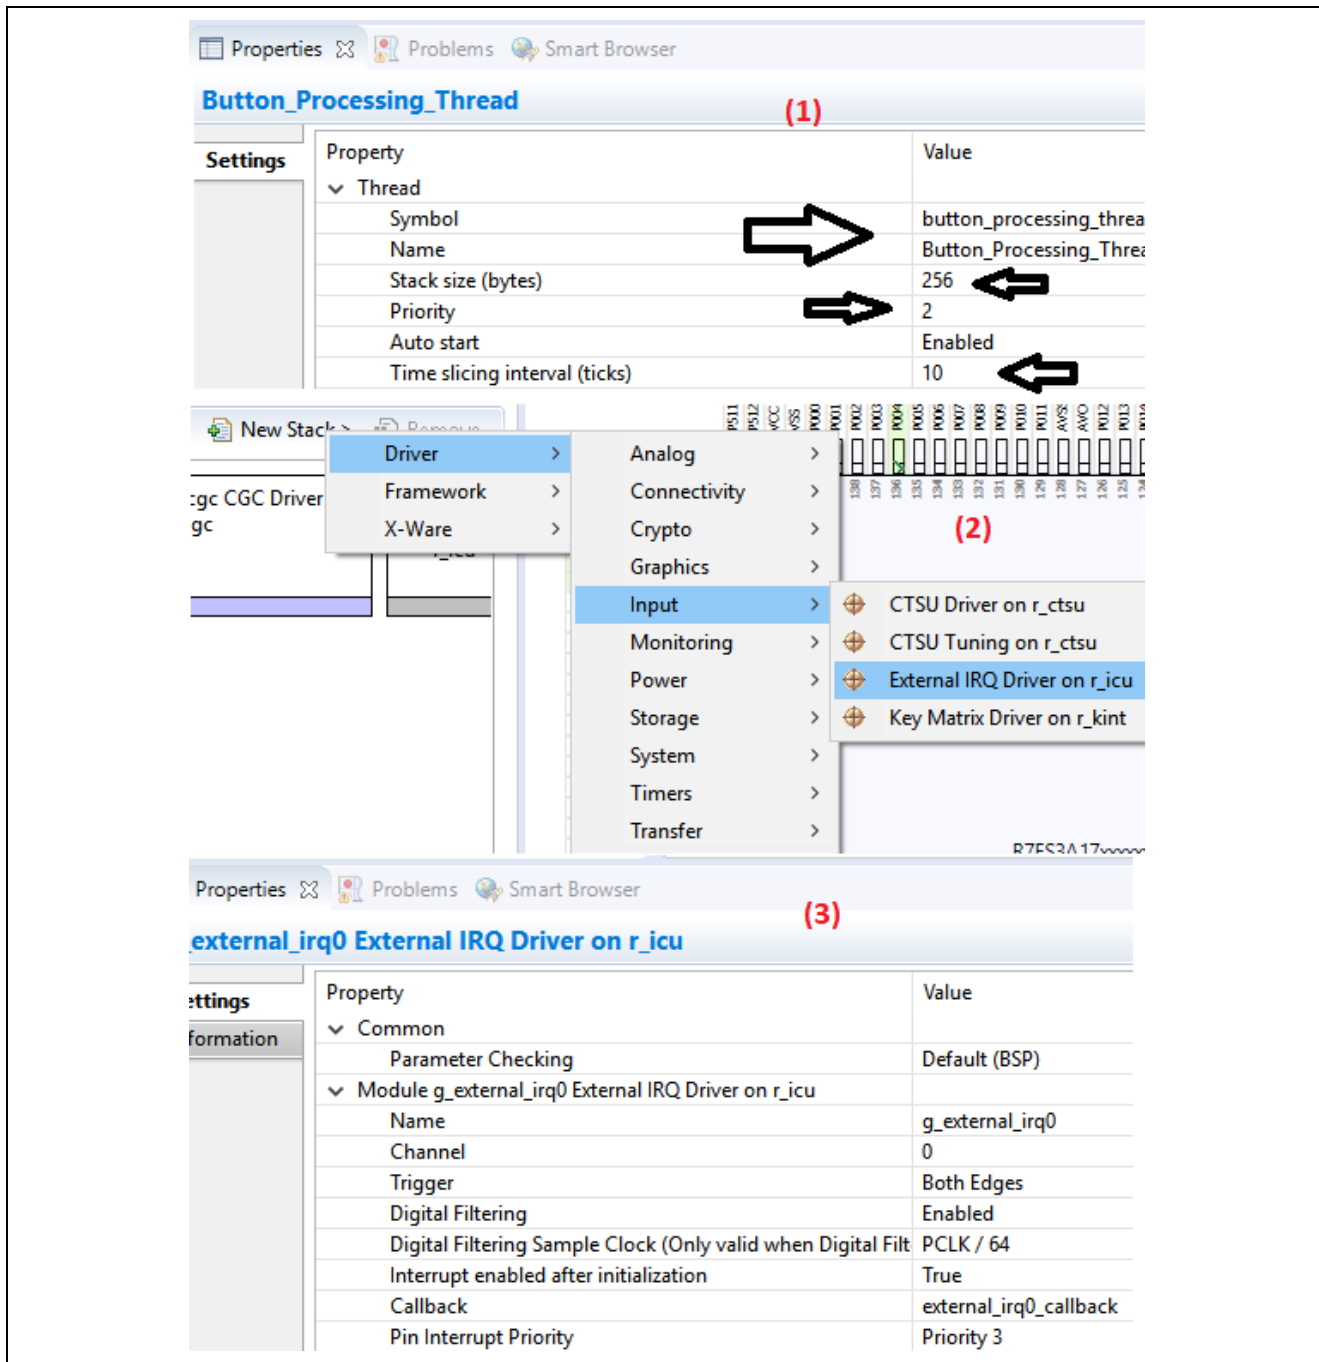

Figure 9. Adding External IRQ Driver Module
- In the **Property** of this new thread, update the **Symbol Name** to `button_processing_thread` (see Figure 9).
- Include the **External IRQ Driver on r_icu** module by clicking the **New Stack** button (+) sign in the **HAL/Common Stacks** window and go to **Driver > Input > External IRQ Driver on r_icu** (see Figure 9).